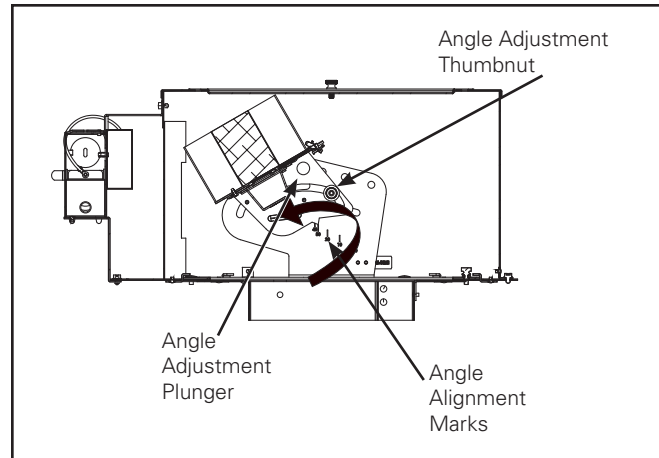

Figure 3.
1. Loosen Angle Adjustment Thumbnuts (2) through collar opening but do not remove (Figure 3).
2. Pull Angle adjustment plunger to change tilt and release for rough adjustment in 10 degree increments. Angle alignment marks provided for reference (Figure 3).